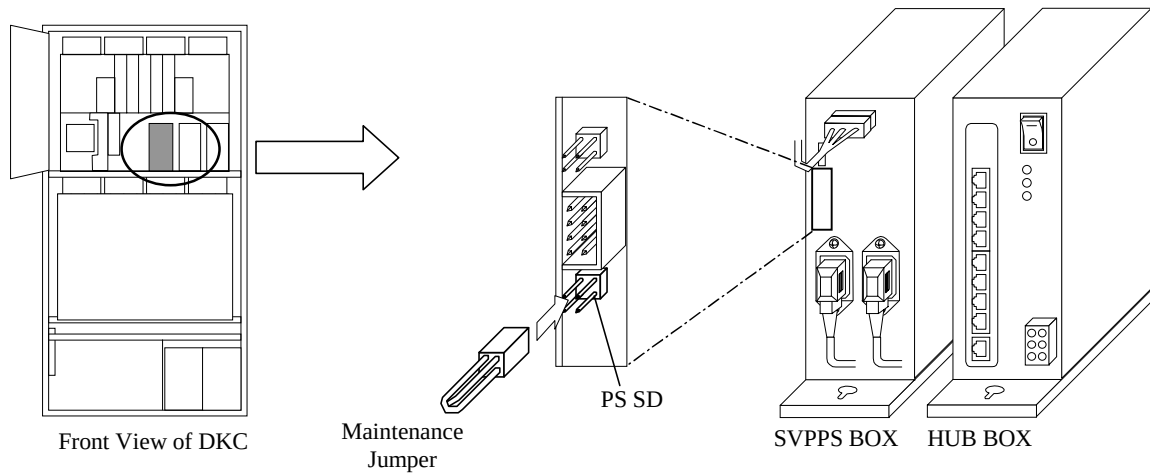

Fig. 3.18-4 Jumper settings of SVPPS BOX
- a. Remove the maintenance jumper of the PS SD on the SVPPS BOX. (See Fig. 3.18-4.)